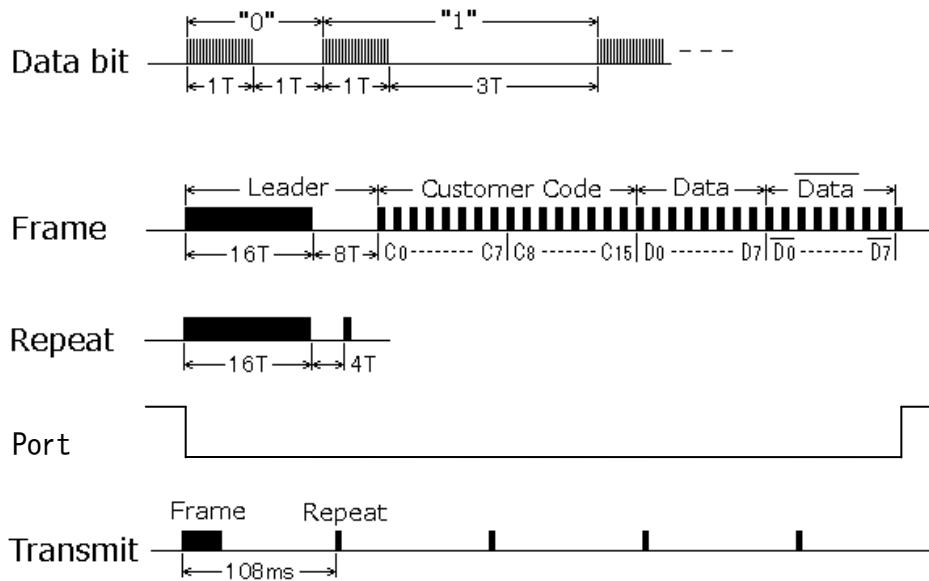

Figure 4.12.2 Signal waveform of NEC format
- 2 The NEC format outline is as follows and Figure 4.12.2 also shows the NEC format.